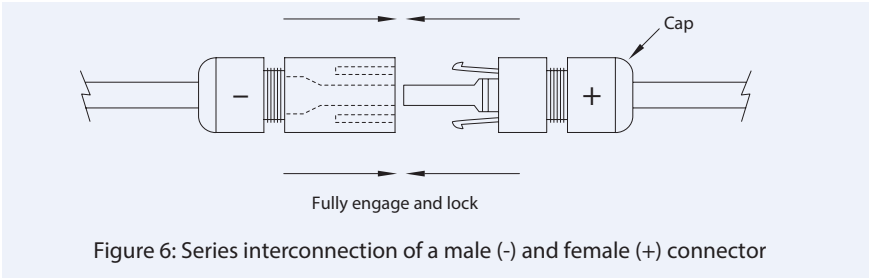

Figure 6: Series interconnection of a male (-) and female (+) connector
- These Solar PV modules are provided with two (2) stranded, sunlight resistant output cables that are terminated with PV connectors ready for most installations. The positive (+) terminal has a female connector while the negative (-) terminal has a male connector. The module wiring is intended for series connections [i.e. female (+) to male (-) interconnections] (Fig. 6), but can also be used to connect suitable third-party electrical devices that may have alternative wiring configurations so long as the manufacturer's instructions are followed.
- Use field wiring with suitable cross-sectional areas that are approved for use at the maximum short-circuit current of the PV module. We recommend installers use only sunlight resistant cables qualified for direct current (DC) wiring in PV systems. The minimum wire size should be 4 mm² (see Table 1).